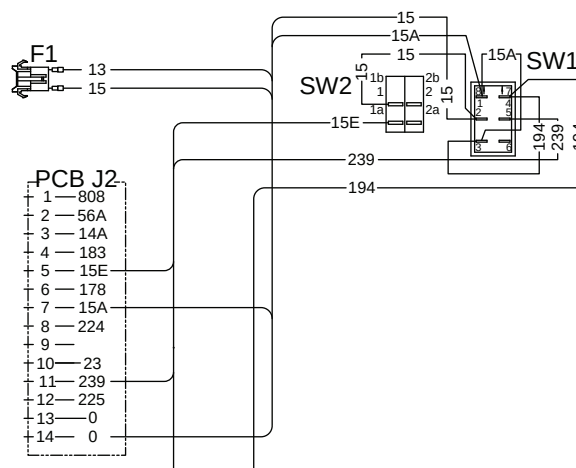

Figure 2. AUTO-OFF-MANUAL Switch Wiring
3. Place the negative (-) test lead to a clean frame ground and the positive (+) test lead to Wires 15 and 15E on SW2. See Figure 2.
2. If little or no battery voltage is present, refer to Figure 2 and check for an open between the SW1 (AUTO-OFF-MANUAL) switch and the SW2 (Exercise) switch.